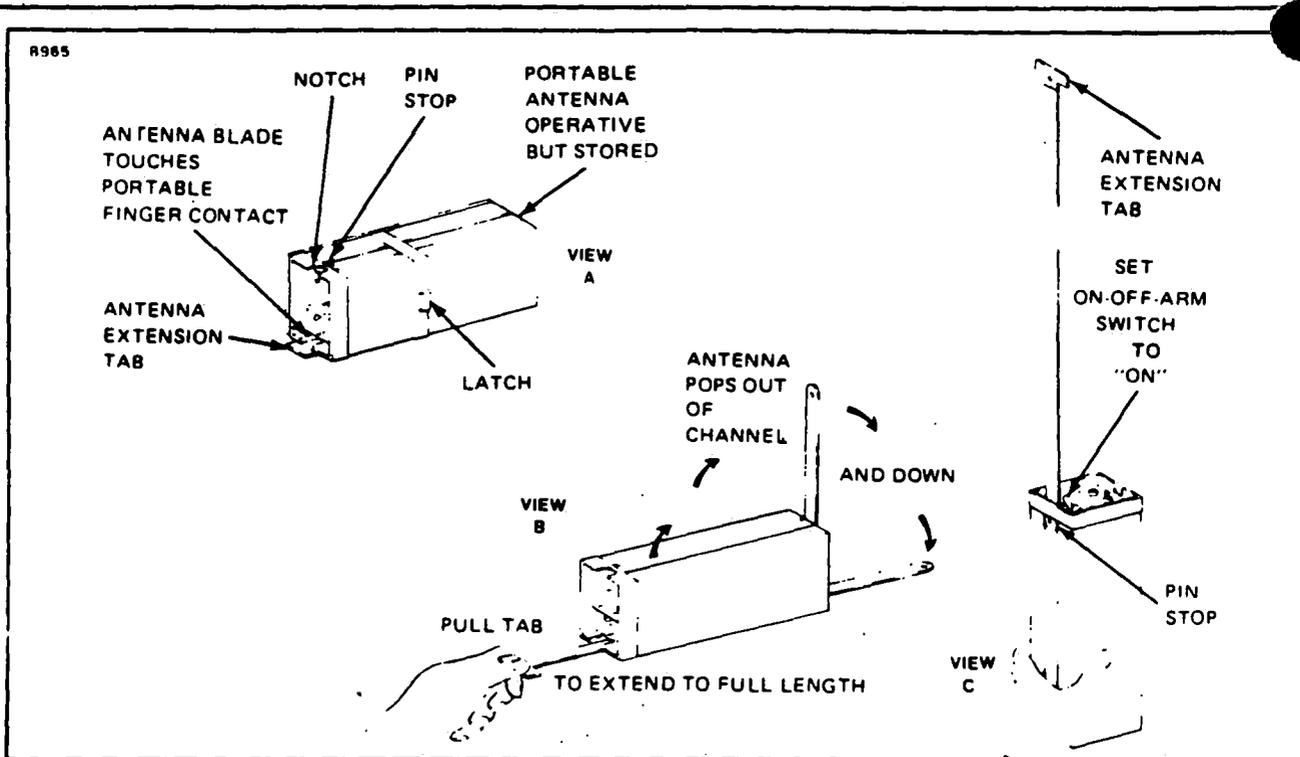

Figure 12-1. ELT Portable Folding Antenna (Narco)
12-4. BATTERY AND REMOVAL AND INSTALLATION (NARCO). (Refer to Figures 12-1 and 12-2.)
- l. Connect the antenna coaxial cable to the ELT and ensure that the contact separator is inserted between the antenna contact finger and the portable antenna. (Refer to Figure 12-1.)